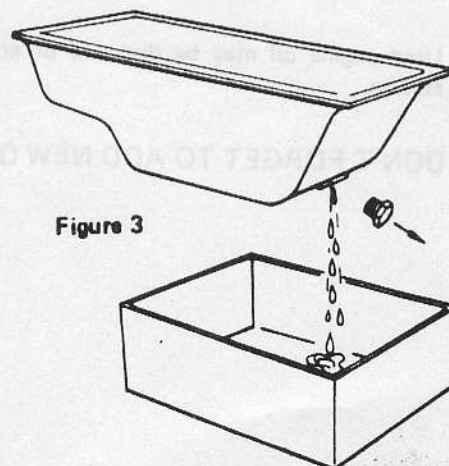

Figure 3
5. Place a carton under pan to catch oil drips as you loosen and remove oil drain plug. (See Figure 3)